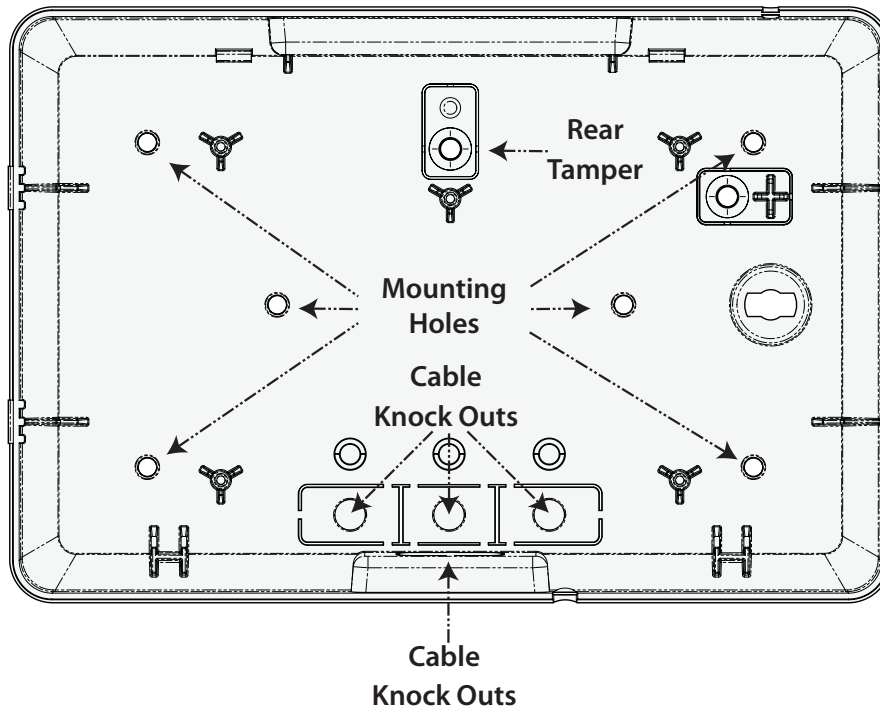

Figure 3: Mounting Holes, Cable Knock Out's & Rear Tamper Locations
**CAUTION - Figure 3 below is a guide only and is not a 1:1 mounting template for the RF120. Do not scale.**